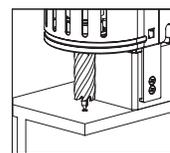

Figure 2
4. Place Slugger® machine on workpiece with pilot pin over the center of hole to be drilled. **(Figure 2)**